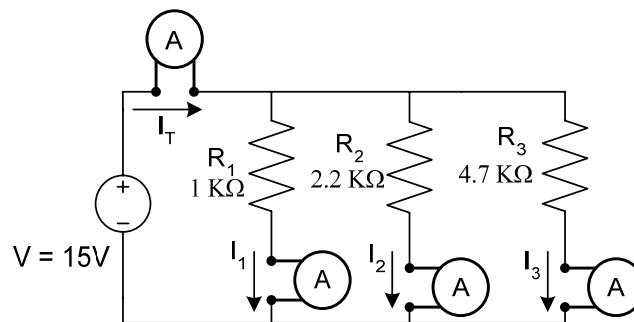

Figure 4.4
4. Now construct the circuit as shown in Fig 4.4. Turn on the DC power supply and set the DC supply to 15V by using Voltmeter.